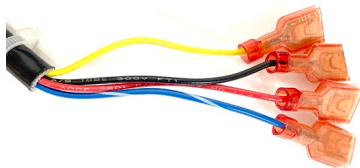

Figure 6
3. Terminate the stripped wires with the ¼" push on connectors (see Figure 6).
3. Terminate the stripped wires with the ¼" push on connectors (see Figure 6 above).